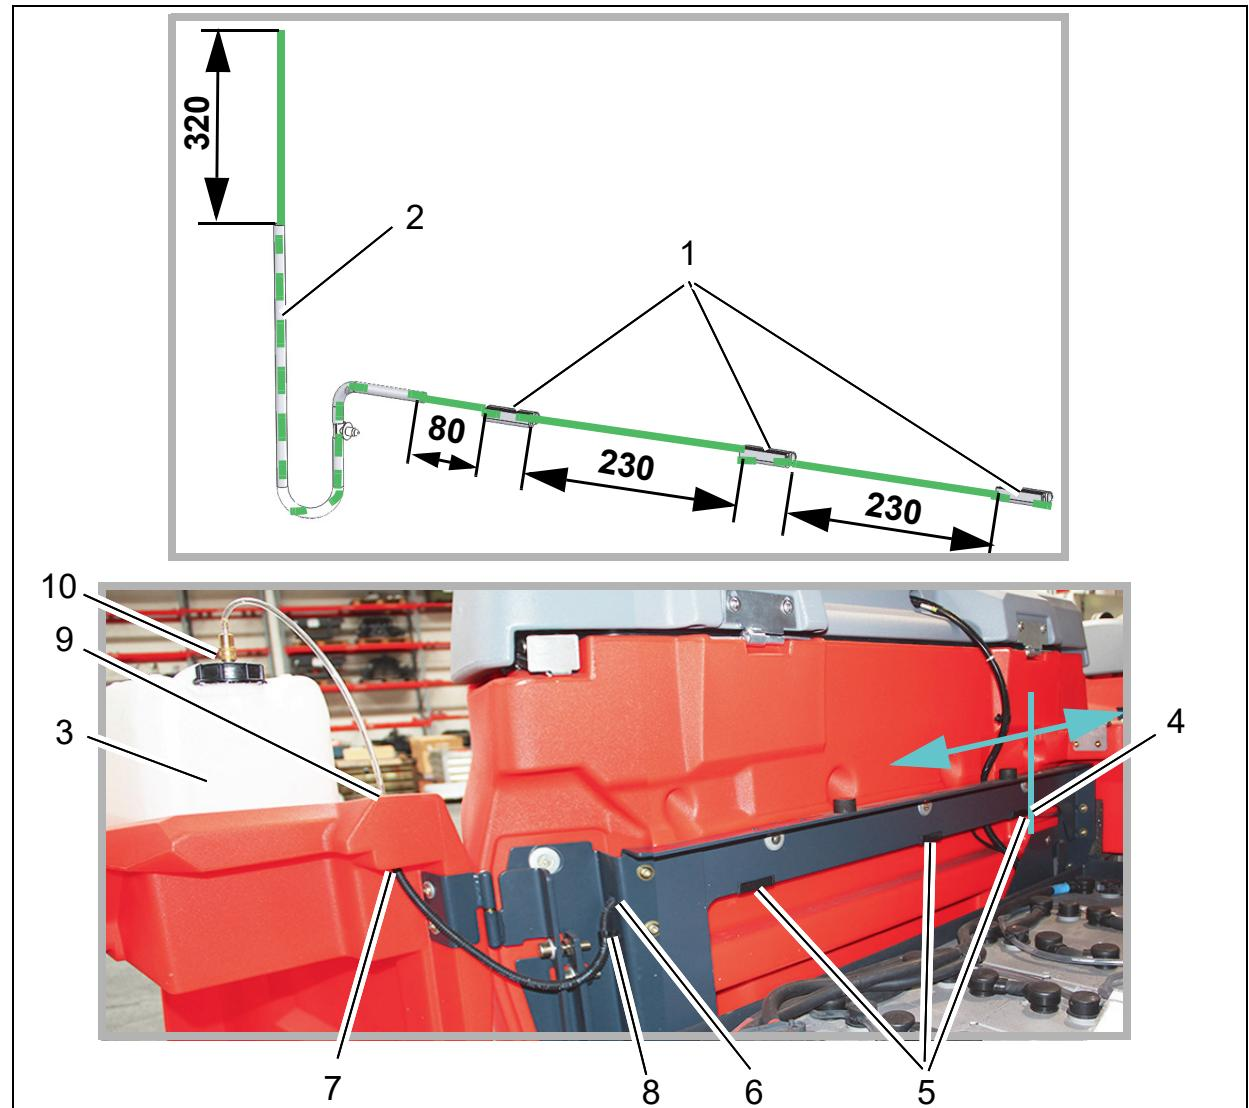

Fig. 4
2. Fit the three hose guides (Fig. 4/1) 230 mm apart on the dosing hose.
3. Fit the corrugated hose (Fig. 4/2) at a distance of 80 mm to the edge protection on the dosing hose.
1. Place the canister (Fig. 4/3) in the door holder.
2. Start installation of the pre-assembled dosing hose at the last section of hose guide (Fig. 4/4). Insert the sections of hose guide with dosing hose (Fig. 4/5) into the recesses of the cover plate.
3. Feed the corrugated hose with dosing hose through the opening of the cover plate (Fig. 4/6) into the hole of the side door (Fig. 4/7).
4. Fix the corrugated hose with the corrugated hose holder to the cover plate (Fig. 4/8).
5. Pull the cable sleeve over the end of the dosing hose and insert it into the hole on the top of the side door (Fig. 4/9).
6. Connect the dosing hose to the quick-release coupling of the canister (Fig. 4/10).